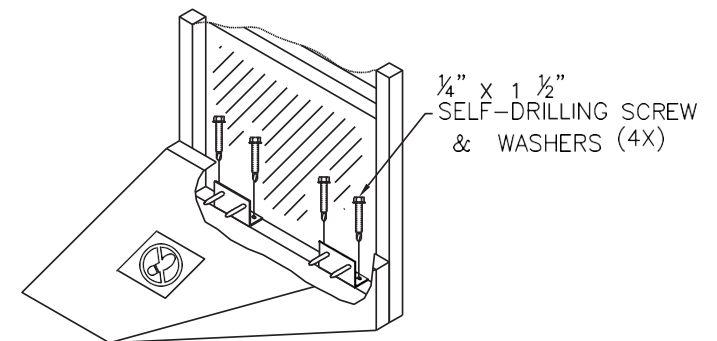

FIG 22
- Place Bottom Pad along bottom of Vertical Frame (Figure 22).